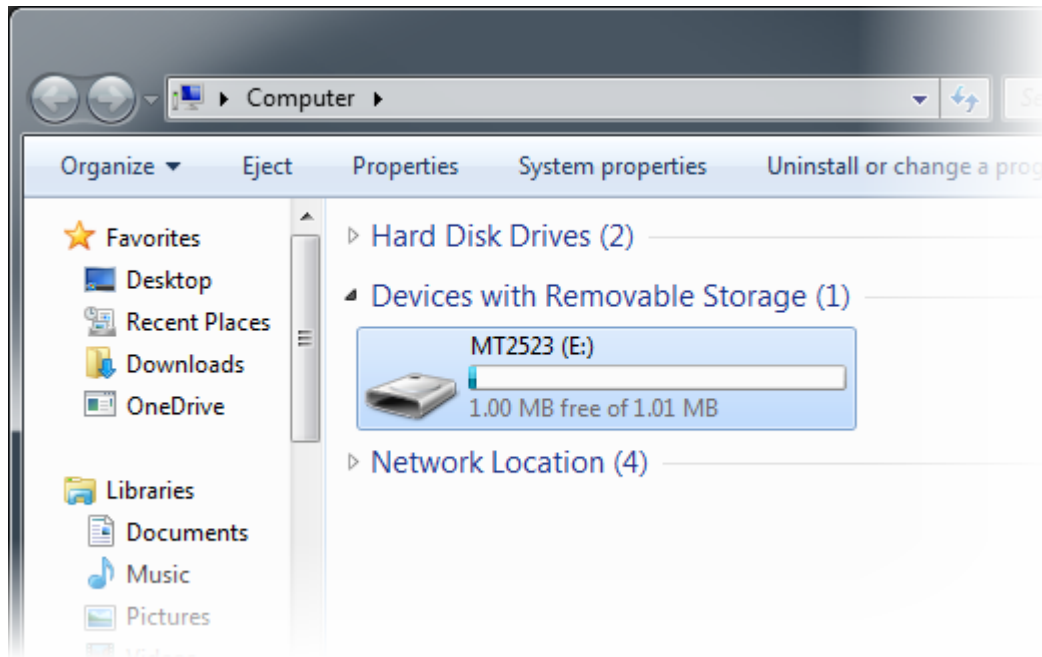

Figure 21. LinkIt 2523 HDK connected as removable disk storage
- 2) Navigate to **Computer** on your PC to check if a new mass storage named **MT2523** is available under **Devices with Removable Storage**, as shown in Figure 21.